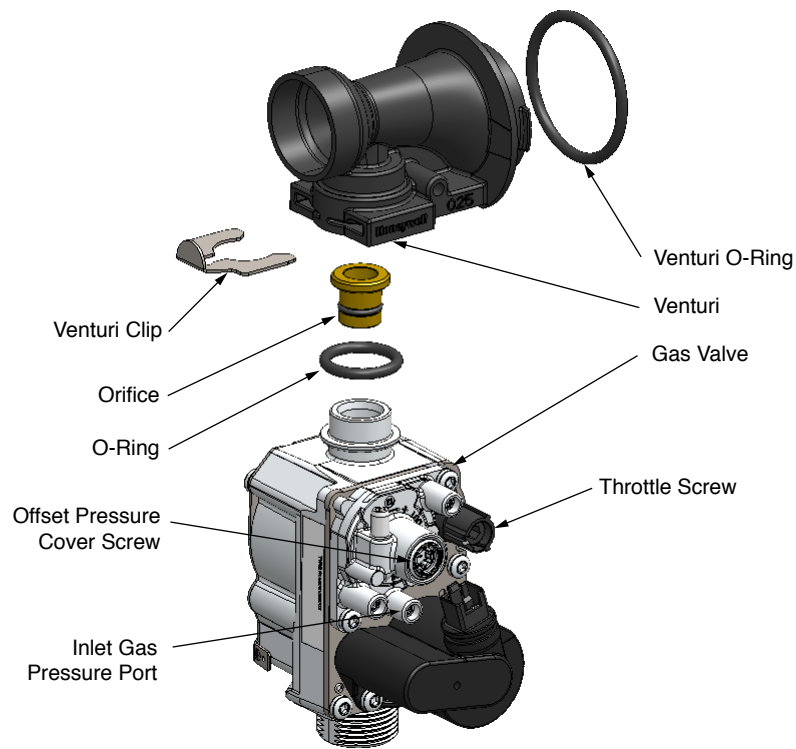
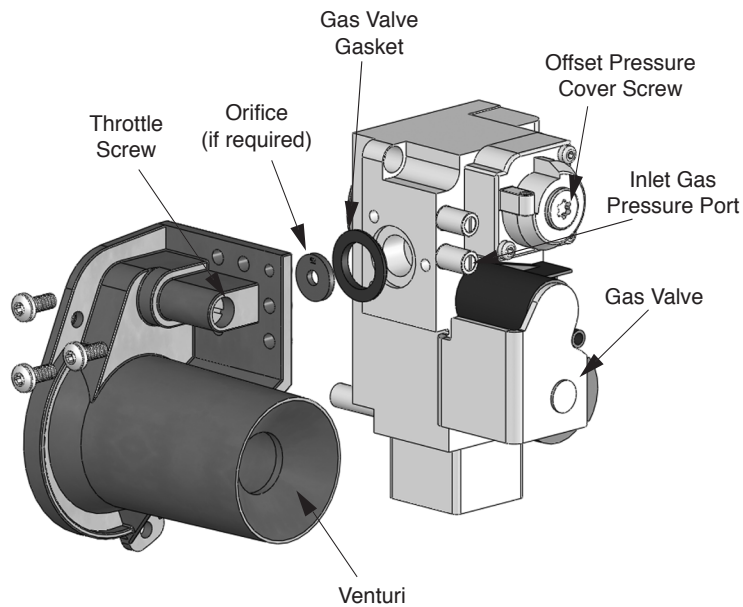
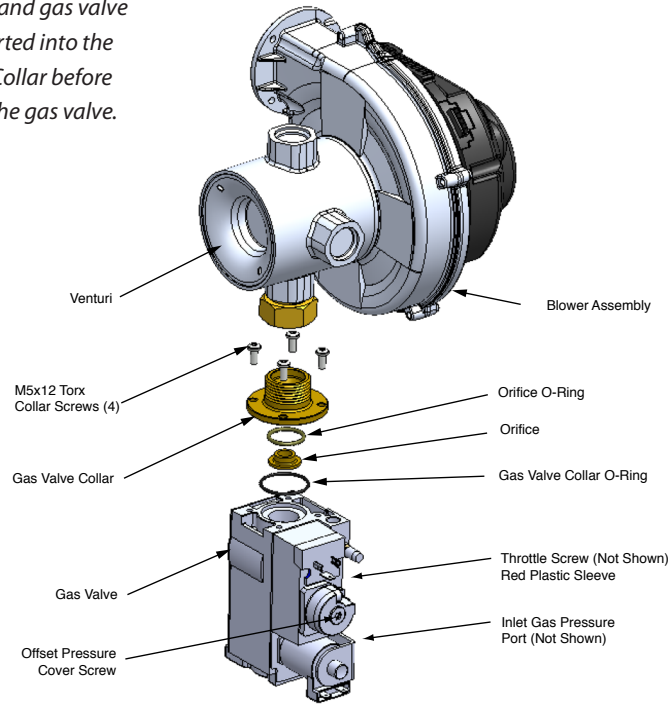

Fig. 16 - Gas Valve / Venturi Assembly - PRESTIGE Solo 80-110
Fig. 17 - Gas Valve / Venturi Assembly - PRESTIGE Solo 155/175/250
Fig. 18 - Gas Valve / Venturi Assembly - PRESTIGE Solo 299/399 (1)
- Prior to start up, ensure the unit is set to fire propane. Check the rating label for the type of fuel. Check the gas valve for propane conversion label. If there is a conflict or doubt on the burner set up, remove the gas valve and check for the propane orifice, see Fig. 16, Fig. 17 or Fig. 18 on page 31.